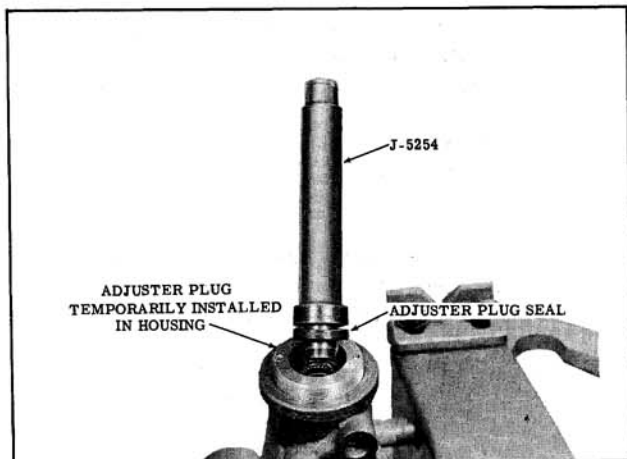

Fig. 8-51 Installing Seal
2. If seal was removed, temporarily install the adjuster plug in the gear housing and place dust seal and a new oil seal on Tool J-5254 (lip of seal away from tool). Lubricate seal with oil, Part No. 1050017 and drive or press seal into adjuster plug just far enough to provide clearance for the retaining ring. (Fig. 8-51) Tool J-5254 must be free of burrs that could scratch the seal.